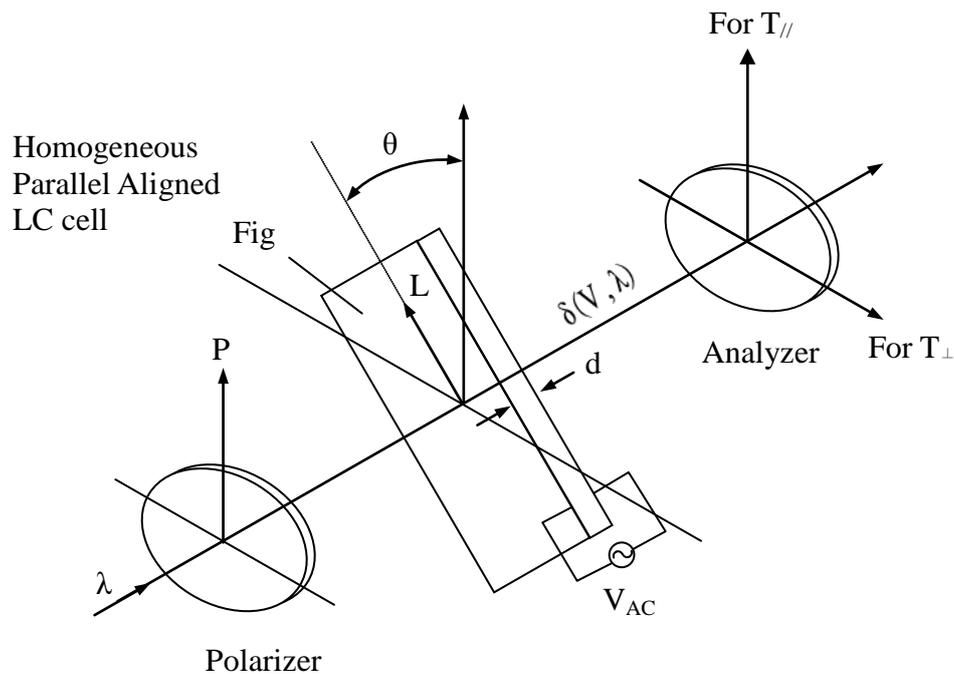

Fig. 11 Schematic diagram of experimental setup
On the other hand, if a linearly polarized light is normally incident onto a parallel aligned cell but with its polarization making $\theta = 45^\circ$ relative to the direction of the aligned LC directors (Fig. 11), then phase retardation occurs due to the different propagating speed of the extraordinary and ordinary rays in the LC medium. In this $\theta = 45^\circ$ configuration, when the two polarizers are parallel, the normalized transmission of a parallel aligned LC cell is given by
2. Set up $\theta = 45^\circ$ configuration at $V = 0$ as shown in Fig. 11. Let the analyzer's transmission axis perpendicular to that of the polarizer, then rotate the parallel-aligned LC cell until the intensity of the transmitted light reaches the maximum value (T_{\perp}). This procedure establishes the $\theta = 45^\circ$ configuration. Take down T_{\perp} value, then, measure the intensity of the transmitted light ($T_{//}$) of the same LC cell at the analyzer's transmission axis parallel to that of the polarizer (also at $V = 0$).